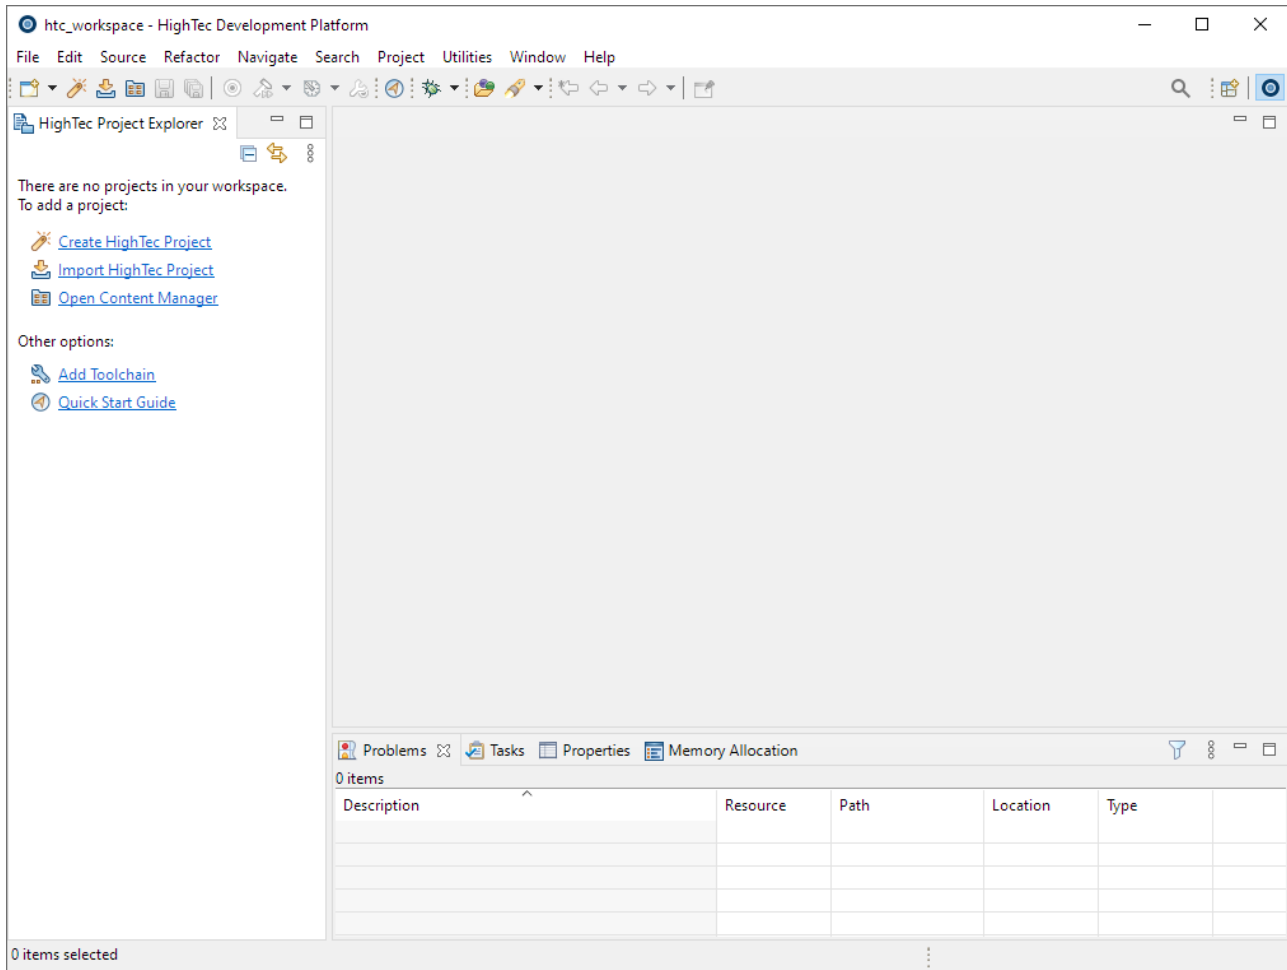

Figure 9 HighTec IDE perspective
6. Click the **Get to Work** on the left side of the view to go to the workbench. Assuming first start of eclipse, **HighTec perspective** (Figure 9) appears, otherwise last saved workbench layout.
The HighTec Content Manager provides easy access to the HighTec's resource cloud repository. You find there project examples, templates and other documents that help you to get up to the speed quickly. You can open the HighTec Content Manager as the separated window from the **HighTec Project Explorer** menu **Open Content Manager** (Figure 9).